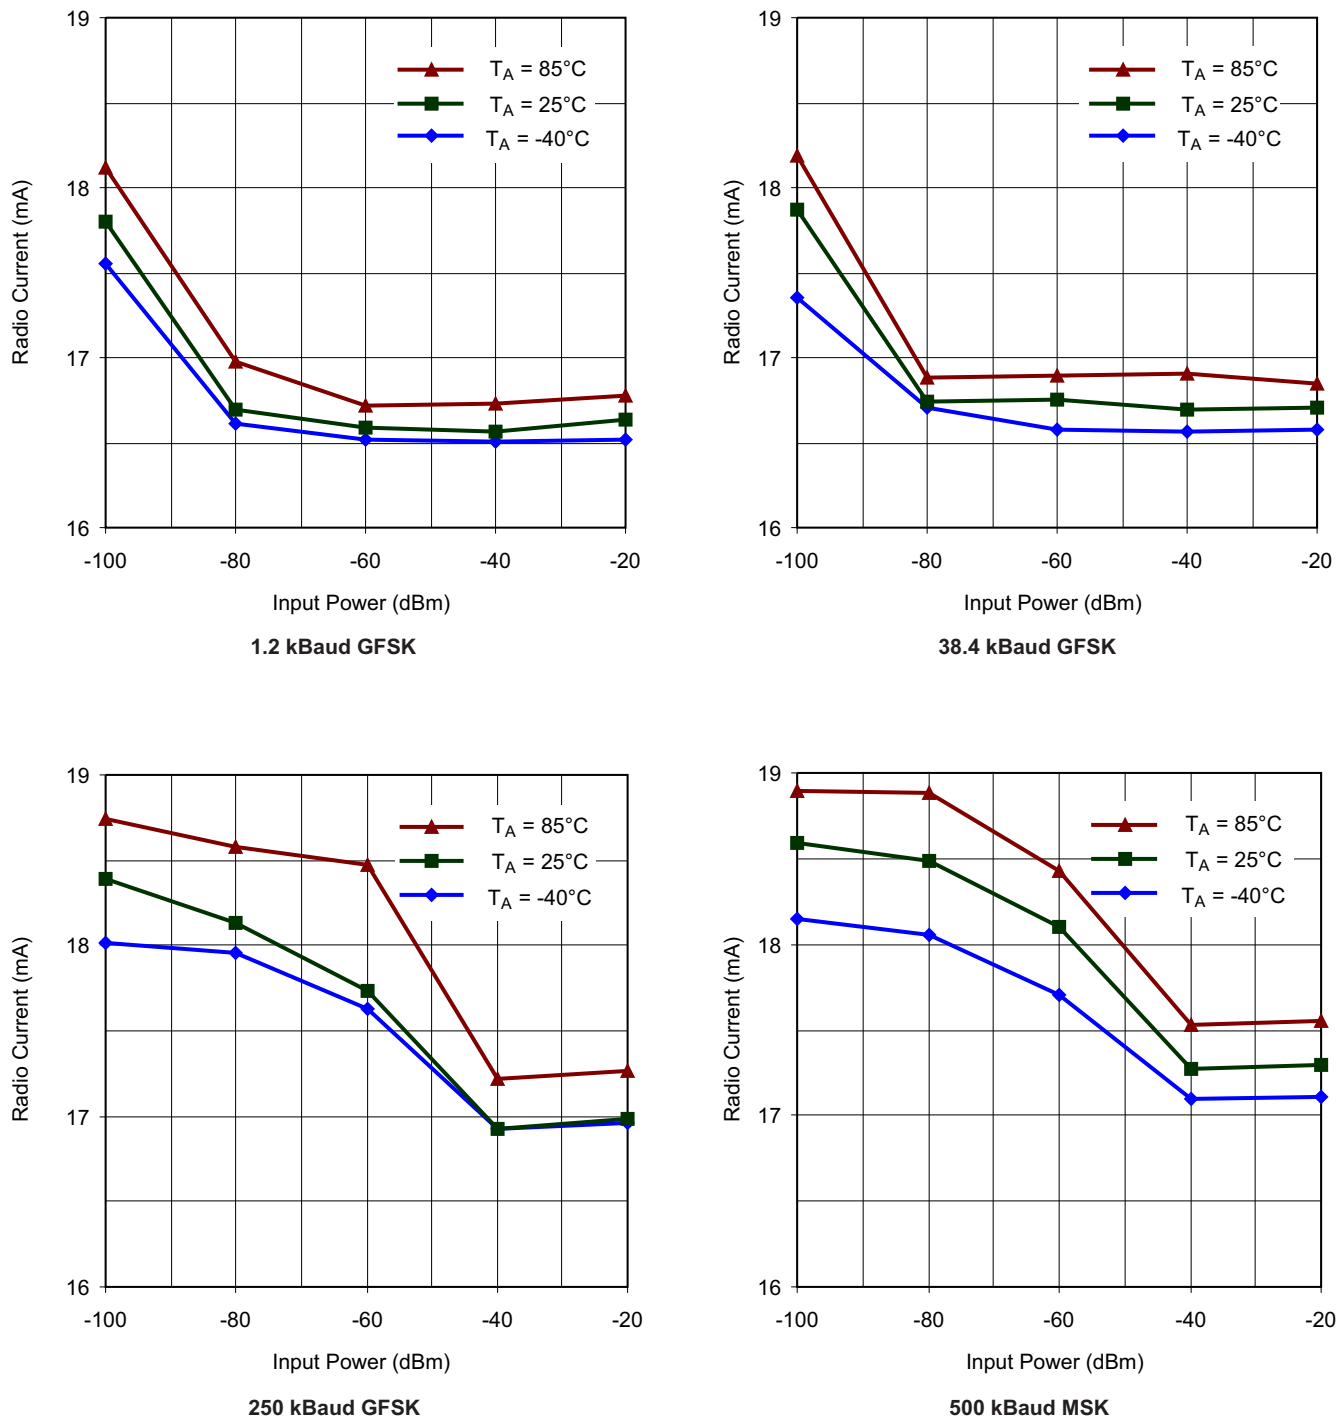

Figure 5-20. Typical RX Current Consumption Over Temperature and Input Power Level, 868 MHz, Sensitivity-Optimized Setting
(1) All measurement results are obtained using the EM430F6137RF900 with BOM according to tested frequency range (see Table 7-1).
(2) Reduced current setting (MDMCFG2.DEM_DCFILT_OFF = 1) gives a slightly lower current consumption at the cost of a reduction in sensitivity. See Section 5.55 through Section 5.58 for additional details on current consumption and sensitivity.
(3) For 868 or 915 MHz, see Figure 5-20 for current consumption with register settings optimized for sensitivity.